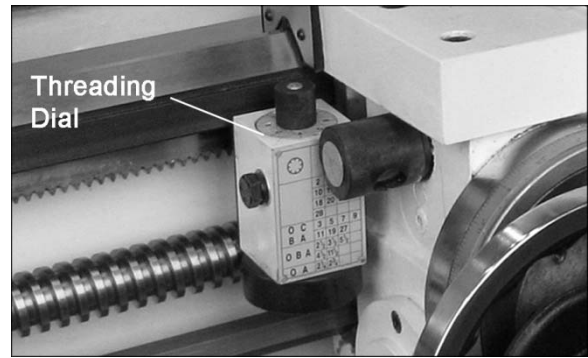

Figure 26
8. **Threading Dial** (Figure 26): Indicates the point on the leadscrew where the half nut can be re-engaged to continue inch threading.